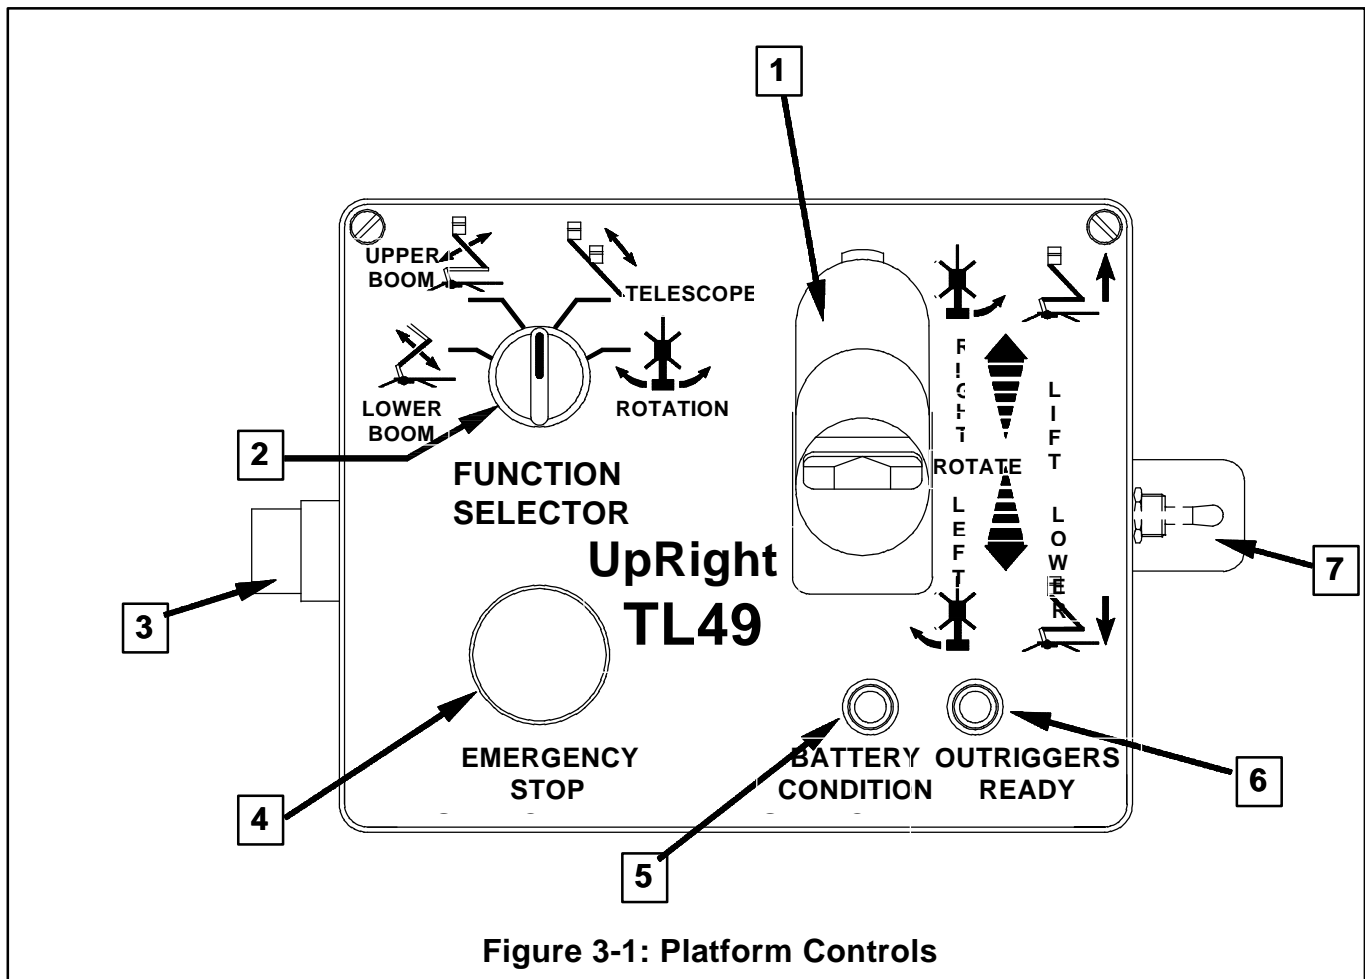

Figure 3-1: Platform Controls
The controls and indicators for operation of the TL49 Work Platform are shown in Figures 3-1 & 3-2. The name and function of each control and indicator are listed in Tables 3-1 & 3-2. The index numbers in the figure correspond to the index numbers in the table. **The operator should know the location of each control and indicator and have a thorough knowledge of the function and operation of each before attempting to operate the unit.**
7. Pull out both chassis and platform emergency stop buttons to turn ON (Figure 3-1 & 3-2).
The emergency override switch (fig. 3-1) can be used to bring the machine into a position to re activate the limit switch and restore power. The switch is momentary which means that it must be held in position while operating the necessary function.
The platform can be levelled from the Upper controls using the levelling switch (see Figure 3-1)